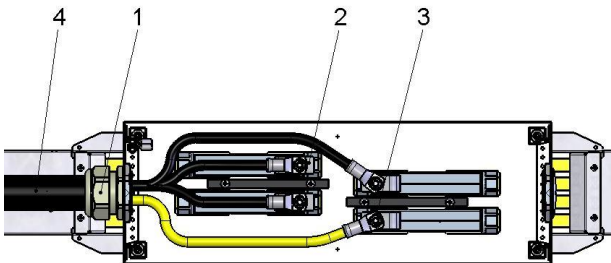

Fig. 55: Possible connection diagram for ProShell 128 Support Profile System
1. The connecting cables (4) are not included in the scope of delivery (see Fig. 55).
2. The connection of the cables to the tubular cable lugs (2 and 3) of the conductor rail line feed is to be carried out by the customer (see Fig. 55).
3. A strain relief for the connecting cable (4) must be installed on site. The round screw connection (1) on the terminal box must not be used as strain relief (see Fig. 55).